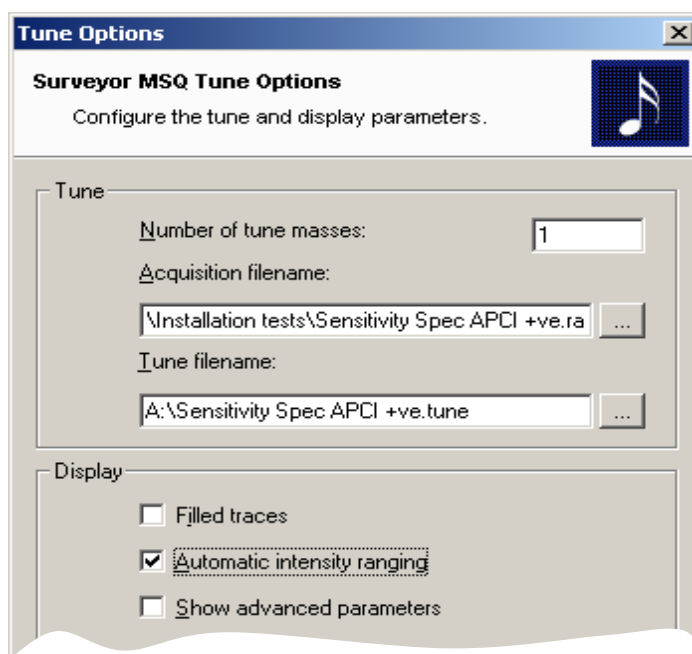

Figure 2-20. Tune Options window – APCI +ve
- Using the button to the right of “Acquisition filename,” browse through to **C:\Xcalibur\Installation\Installation tests** and type in: **Sensitivity Spec APCI +ve.raw**. Check that the Tune filename is **A:\Sensitivity Spec APCI +ve.tune** (see Figure 2-20). Continue as in Positive ESI, but use the 5pg/ μL erythromycin sample.